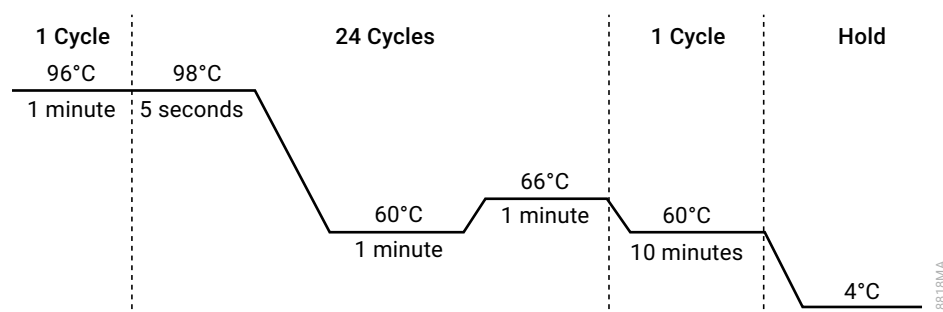

Figure 3. Thermal cycling protocol for the ProFlex® PCR System.
- Select and run the protocol provided below and in Figure 3. The total cycling time is approximately 75 minutes.